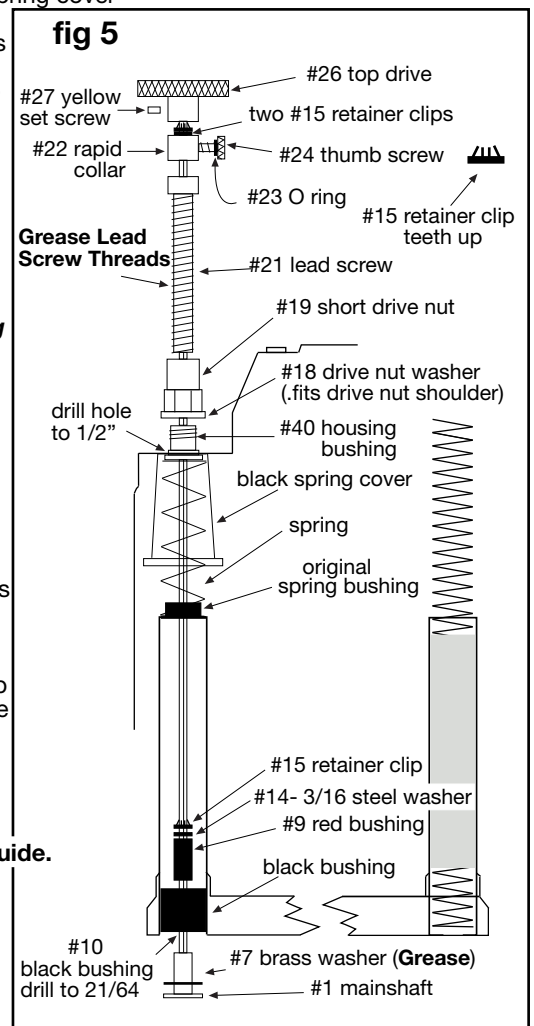

fig 5
up through enlarged 1/2" hole. Feed mainshaft up through 1/2" hole in top motor housing, pull mainshaft until threads on #40 housing bushing are exposed above the top housing. Drop the #18 washer, then #19 drive nut onto the mainshaft. Thread #19 onto #40 housing bushing. Tighten #19 onto #40 using 11/16 wrench (fig 5).
5. Select #10 black nylon bushing, turn bottom housing upside down, Place plunge post upside down onto block of scrap wood. Drive #10 black bushing into post until flush with bottom of post (fig 5). **NOTE: the black bushing will drive in hard, sanding slight bevel on edge will aid in installing. Do not reduce size of bushing, it must be tight in the post. Use #12 GREEN bushing to drive the black bushing in flush with bottom of the post.** Drill the hole in the black bushing with 8 mm drill bit. #1 mainshaft must spin free when placed into black bushing. Select #1 mainshaft #7 brass washer #9 red bushing #14 3/16 steel washer, one #15 retainer clip #13 hollow spring guide.
until threads on #40 housing bushing are exposed above the top housing. Drop the #18 washer, then #19 drive nut onto the mainshaft. Thread #19 onto #40 housing bushing. Tighten #19 onto #40 using 11/16 wrench (fig 5).
- Select #10 black and #12 green nylon bushings, turn bottom housing upside down, Place plunge post upside down onto block of scrap wood. Drive #12 green bushing Bevel end first into post until recessed with bottom of post (fig 5). **NOTE: the green bushing will drive in hard, do not reduce size of bushing, it must be tight in the post. Use #10 black bushing to recess the green bushing in flush with bottom of the post.** Drill the hole in the green bushing with 5/16" drill bit. The #1 mainshaft must spin free when placed into green bushing.